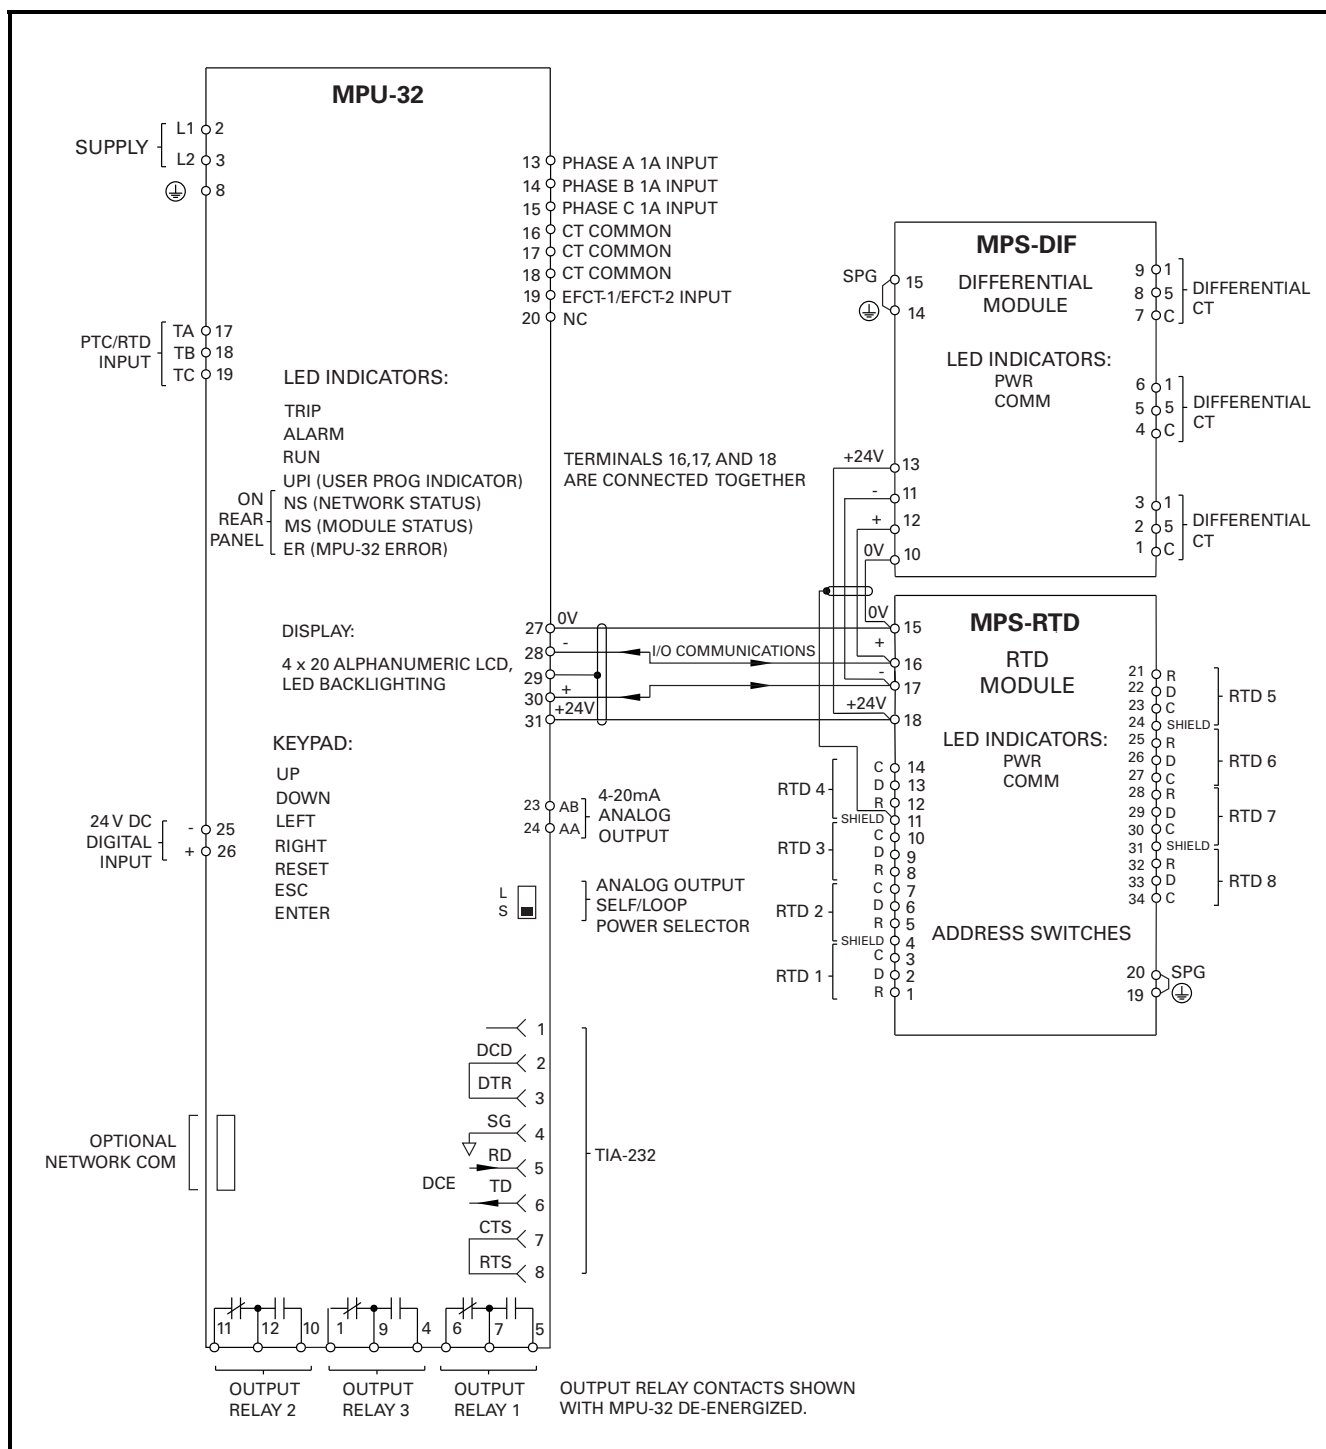
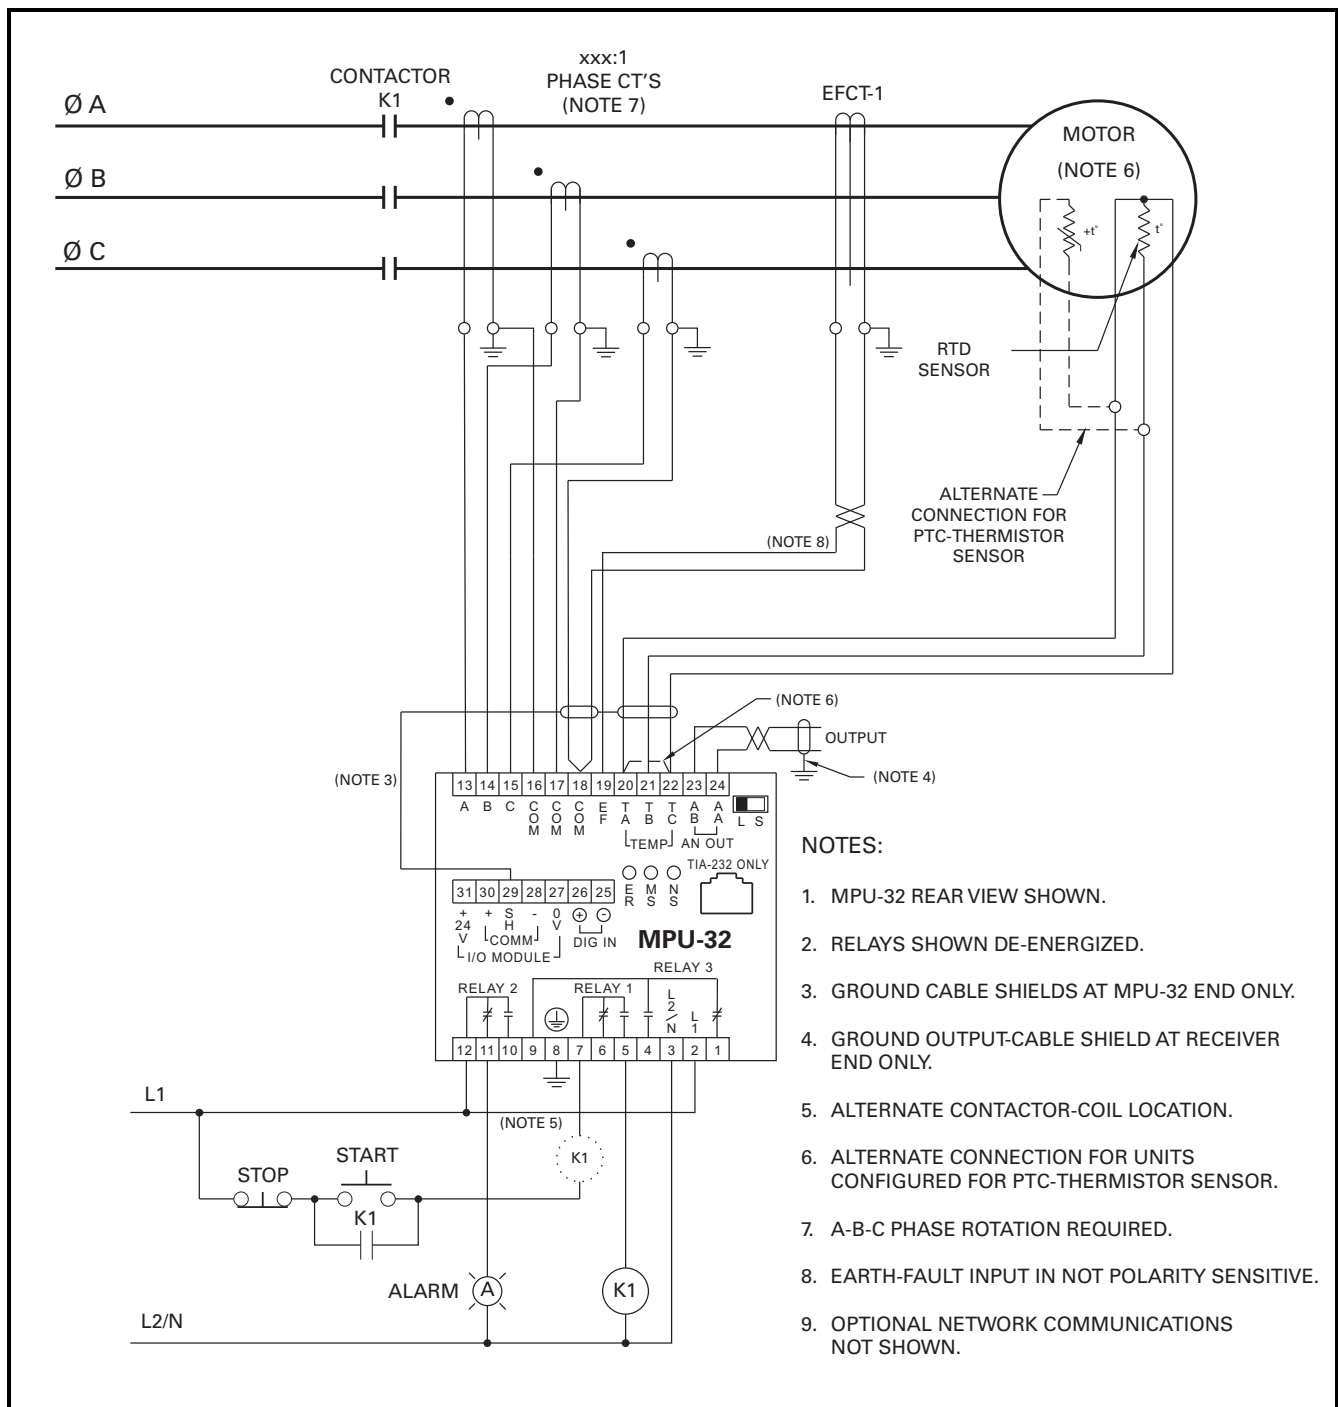

FIGURE C.1 MPU-32-XX-01 Block Diagram.
FIGURE C.2 MPU-32-XX-01 Typical Connection Diagram.
The block diagram of the MPU-32-XX-01 is shown in Fig. C.1 and a typical connection diagram is shown in Fig. C.2.
Connect each CT secondary to the MPU-32 terminal block as shown in Fig. C.2. Although COM terminals 16, 17, and 18 are connected in the MPU-32, three independent CT common leads must be used to prevent exceeding the terminal-block current rating under fault conditions.
The earth-fault input at terminals 18 (COM) and 19 (EF) supports only the 5-A-primary rated EFCT-x series of current transformers. Using the shielded cable provided with the EFCT-x, connect the EFCT-x as shown in Fig. C.2. For earth-fault settings above 5 A, the EFCT-x can be used as an interposing CT or the MPU-32 can be set to calculate the residual earth-fault current based on phase-current measurement. In the latter case, an earth-fault CT is not required. When using the calculated method, the trip setting should be above 5% of the phase-CT-primary rating. See Sections 4.2.2 and 5.6.